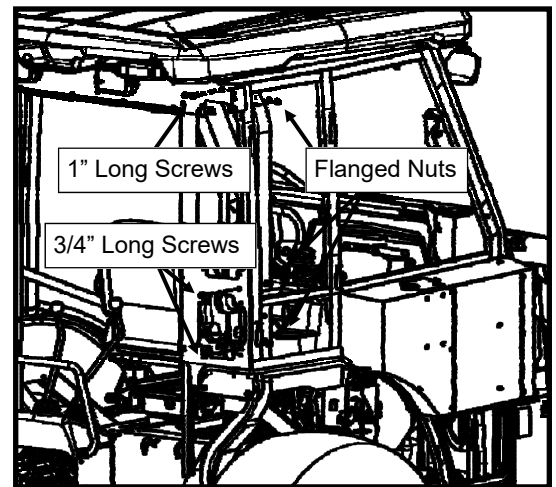

Figure 6.4: Side Frame to Rear Panel Bolts
6.4 Install two 1" long bolts and two nuts through the rear panel, upper mount, and sideframe. (see Figure 6.4). On the lower section of the rear panel, fasten the 3/4" long bolts and nuts, with the lower most bolt mirroring what was done on the left side frame. Leave hardware loose.